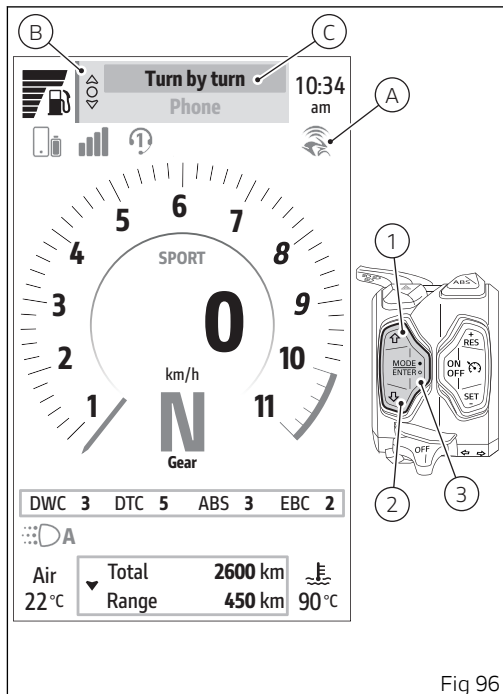

Fig 96
- Select the Interactive Menu (B, Fig 96) by pressing and holding button (1) down for a long time.
- Use buttons (1) and (2) to select item "Turn by turn" (C, Fig 96) and press the ENTER button (3).